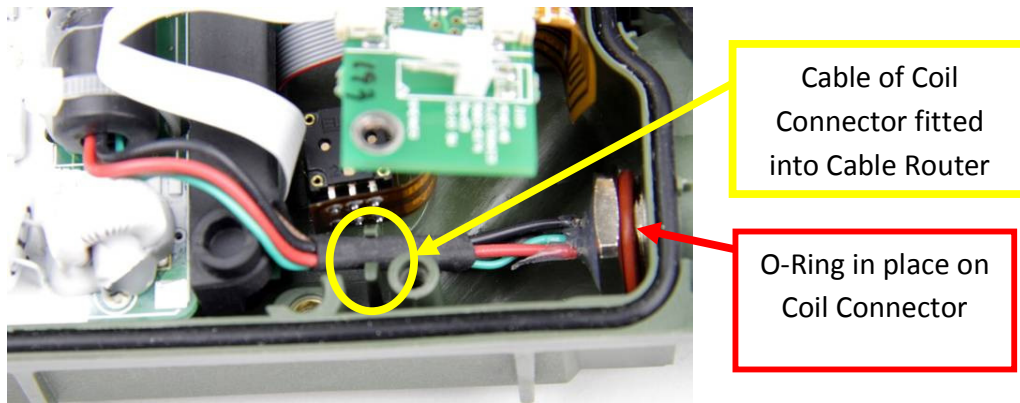

Figure 41: Coil Connector
- Position the coil connector ensuring the connector has a clean and correctly positioned O-ring as shown in Figure 41.
- Fit the cable of the coil connector into the cable router as shown in Figure 41.